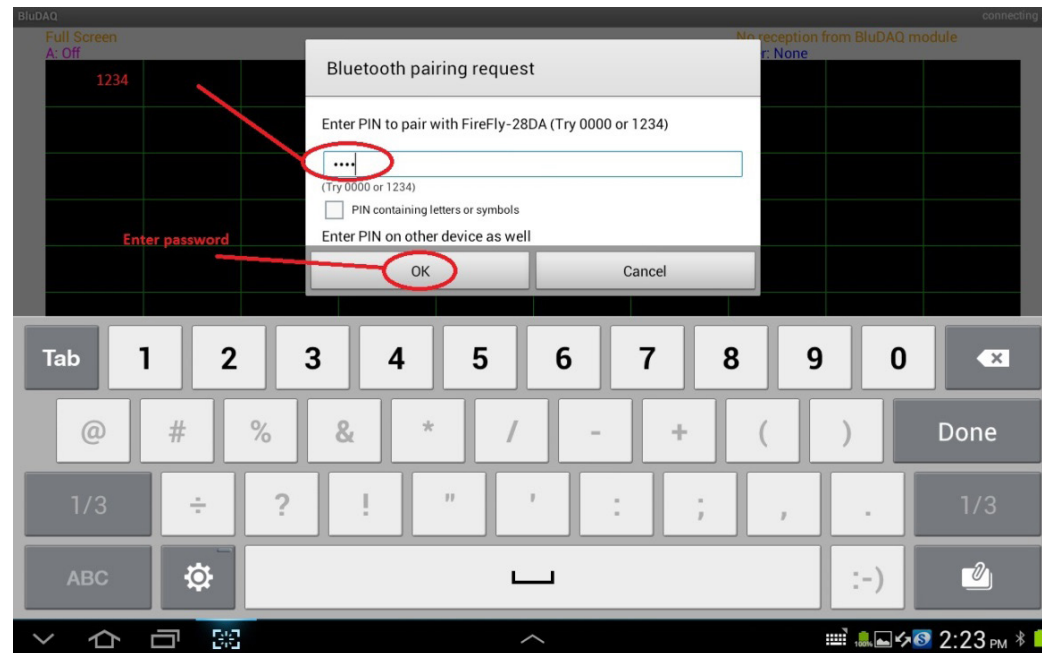

Figure 7
21. You may be prompted for a password, depending on a number of factors. Unless you have changed it, the default is “1234” or “0000”. Enter this and press OK to initiate the connection (see Figure 7). Note to click the *OK* and not the *Done*. The latter will simply hide the keyboard and you will have to tap OK anyway.